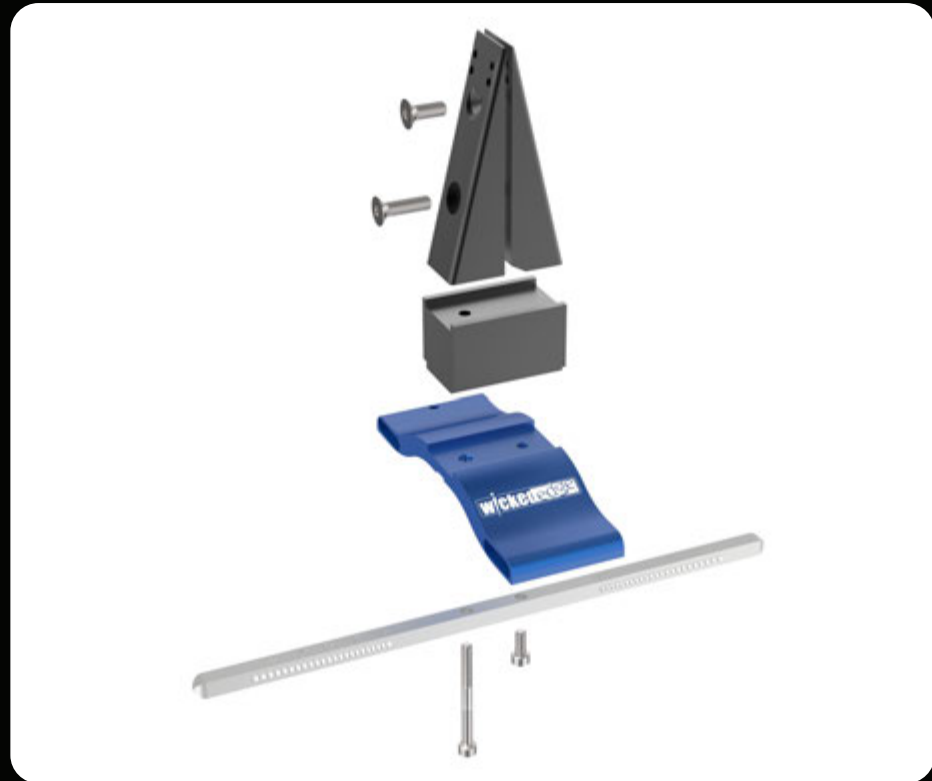

Fig. 13
Step 1: Position the Degree Bar in the bottom channel of the Base with the numbers facing up and the detents facing the same direction as the logo on the Base as shown in Figure 13.